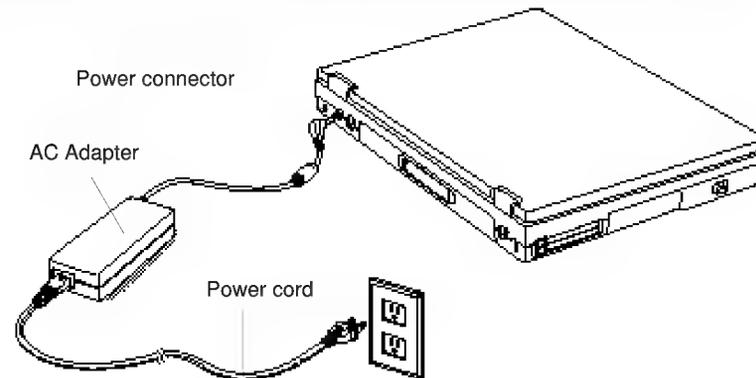

Figure 4. Connecting the AC Adapter
1. Plug the AC adapter into the power connector on the back side of the computer (Figure 4).